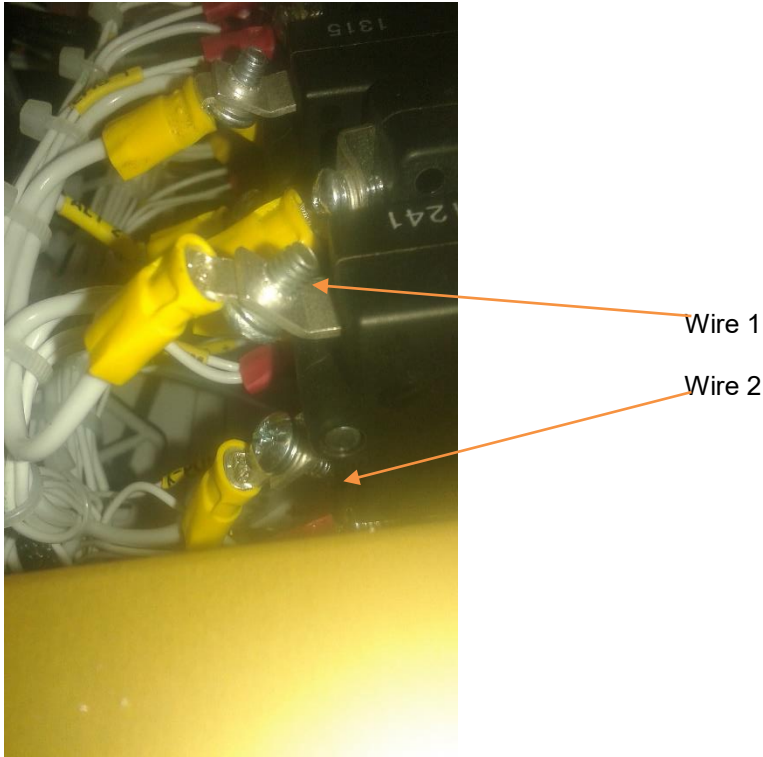

Figure 3
2. With reference to figure 3, if the master switch looks like this, it is correct and this service bulletin does not apply, but an entry should be made into the airframe logbook.
10. With reference to figure 3, tighten the screw, spring washer and 4mm yellow terminal rings to the master switch